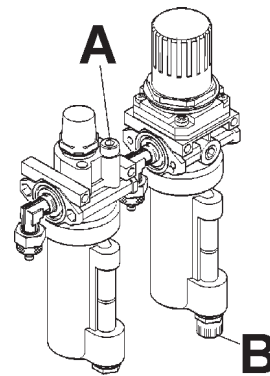

Fig. 6.0-3
**H.** Discharge water from air filter every day!! Do this by turning the knob "B" clockwise and push upward. Water will automatically be discharged. (See 'B' at Fig. 6.0-3).